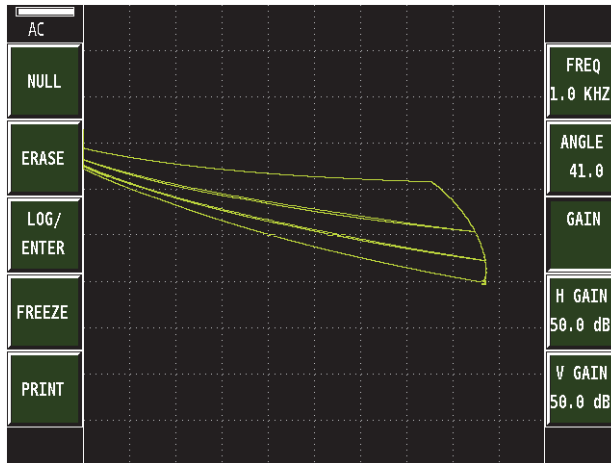

Figure 4-5 Thickness measurement with curve
8. Carefully slide the probe down the entire length of the taper (this will produce the curve). The display should look similar to Figure 4-5 on page 74.